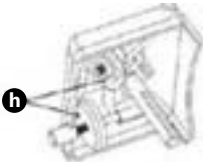

Fig. 10
- After sharpening clean the sharpener elements (h) with the cleaning brush soaked in alcohol (fig. 10).